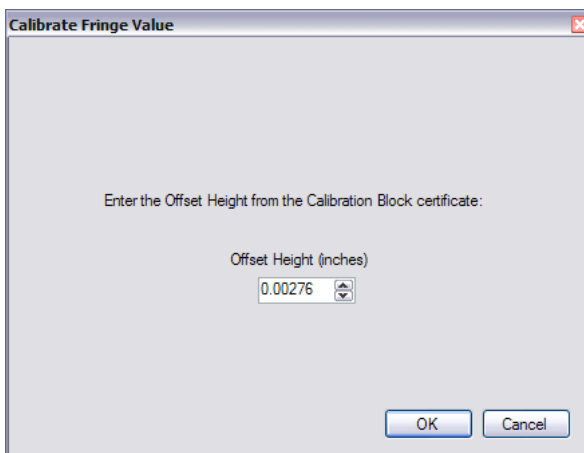

Figure 2.34 Offset Value Dialog
1. Enter the calibration offset value in the Calibrate Fringe Value dialog box (**Figure 2.34**) that pops up and click OK. The calibration offset value for the block is on the Calibration Certificate provided with each block. Please note that the relevant